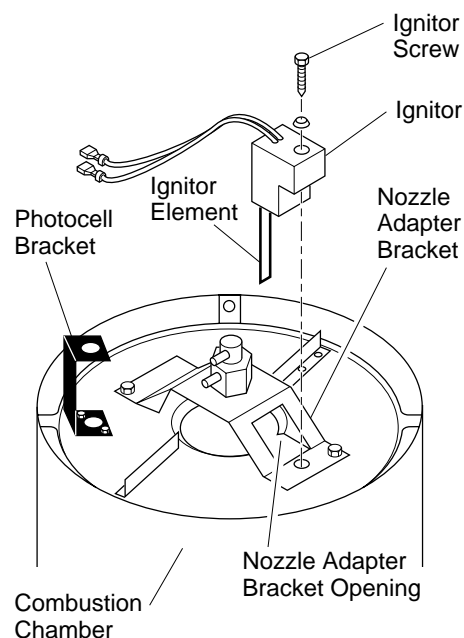

Figure 11 - Ignitor Replacement
6. Remove combustion chamber. Stand combustion chamber on end with nozzle adapter bracket on top (see Figure 11).
9. Carefully guide ignitor into opening in nozzle adapter bracket. Do not strike ignitor element. Attach ignitor to nozzle adapter bracket with screw using a 1/4" nut driver (see Figure 11). Torque 1800 to 3500 grams/centimeters. Do not over torque.